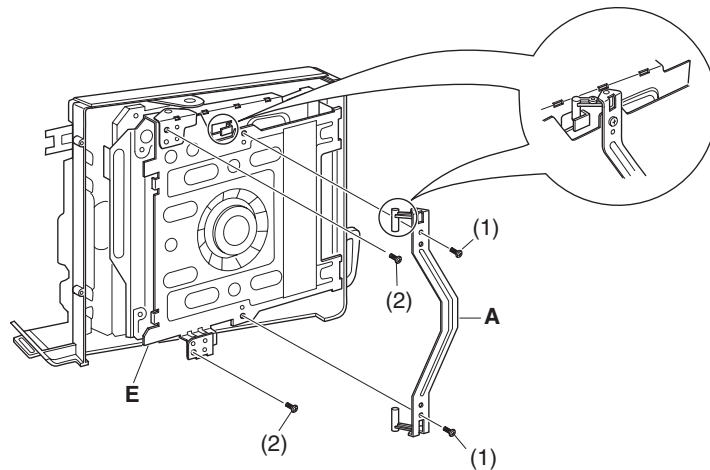
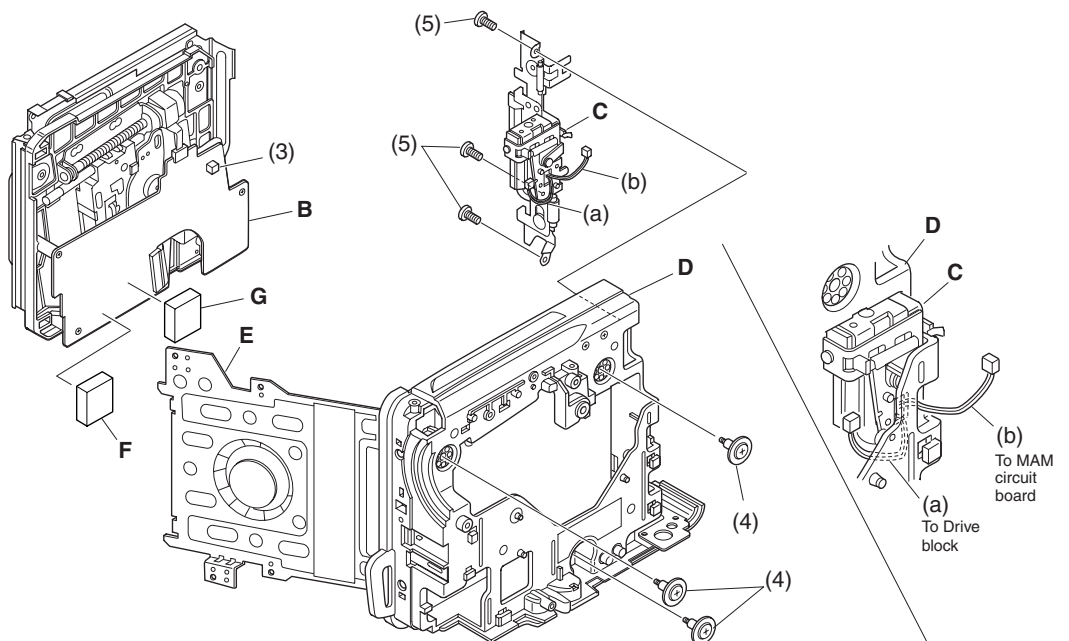

Fig. 4-5a
Fig. 4-5b
4.5 Link bracket, Drive block, Lock unit, and R case (Fig. 4-5a, 4-5b)
■ Link bracket (A)
- (1) Remove the two screws holding the link bracket. (Fig. 4-5a)
■ Drive block (B)
- (2) Remove the two screws holding the hinge, and then open the hinge.
- (3) Disconnect the connector on drive block circuit board. (Fig. 4-5b)
- (4) Remove the three screws holding the drive block.
■ Lock unit (C), R case (D)
- (5) Remove the three screws holding the lock unit.
- When installing the lock unit, wire the cables (a) and (b) of lock unit as shown in Fig. 4-5b.